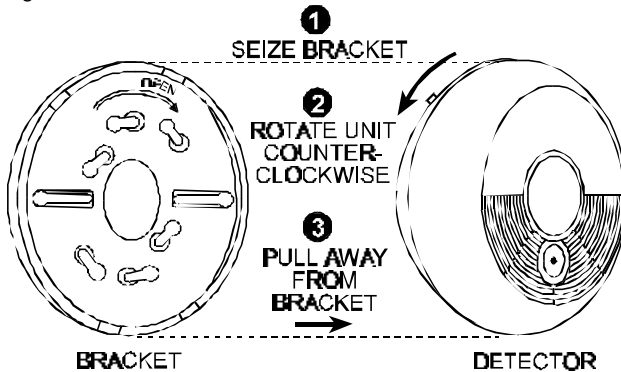

Figure 1. Separating the MCT-423 from its Bracket
- A. Separate the unit from its mounting bracket as shown in Figure 1.